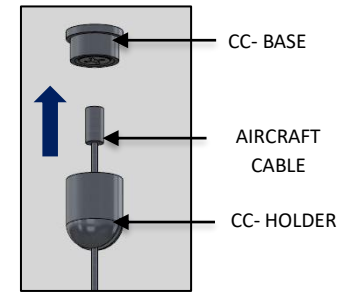

FIG. 19 – AIRCRAFT CABLE INSTALLATION
8. Feed the AIRCRAFT CABLES through the three (3) CC-HOLDER. Once the AIRCRAFT CABLE is fed through the CC-HOLDER, secure to the CC-BASE (mounted) at the three (3) non-powered mounting locations as shown in FIG. 19.